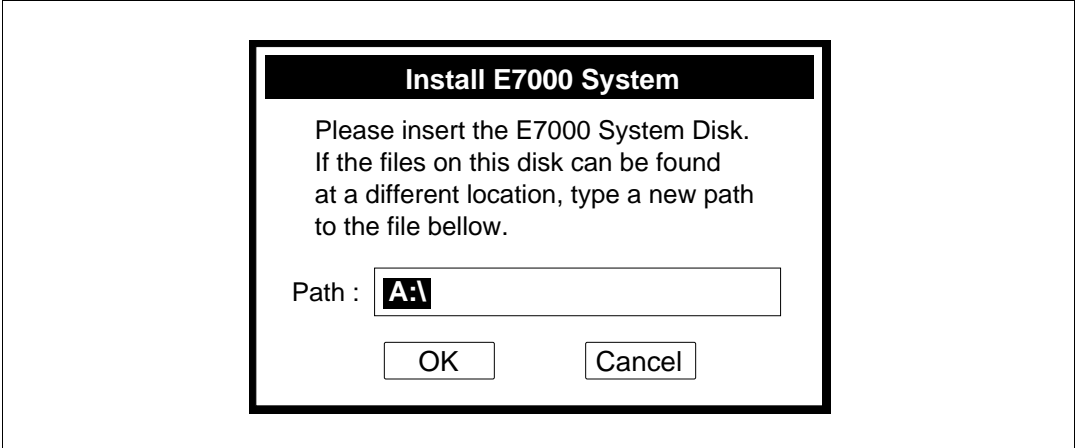

Figure 2-5 E7000PC System Disk Specification (INSTALL)
- (7) Enter the directory name and click the <Install> button, which starts copying the necessary files.
- (8) When the files necessary for GUI-SH execution have been copied, a dialog box prompting the user to locate the E7000PC system disk as shown in figure 2-5. Insert the E7000PC system disk into a floppy disk drive and click the <OK> button, which starts copying the E7000PC system files. Clicking the <Cancel> button terminates installation.